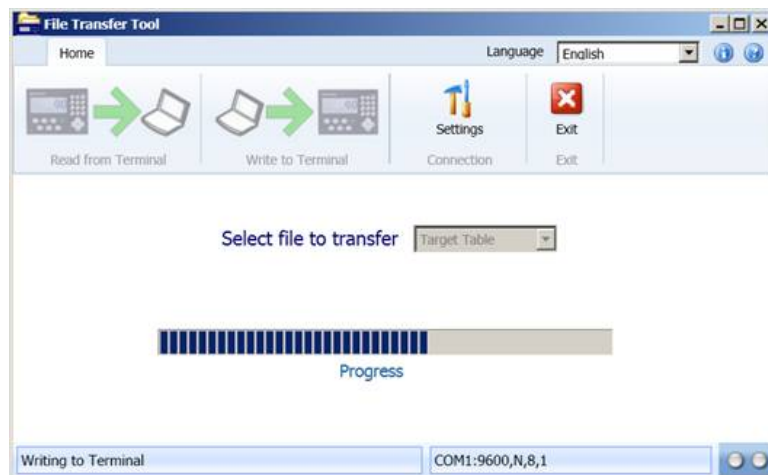

Figure 3-10: File transfer process bar
- Once the transfer process begins, the **Home** tab of the IND246 File Transfer Tool will display a progress bar, as shown in Figure 3-10.